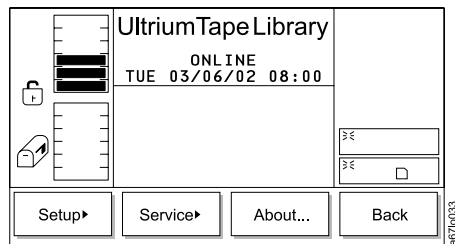

Figure 201. Main Menu (alternate screen)
1. From the Main Menu's initial screen, press the button below the **More** softkey. The Main Menu's alternate screen displays (see Figure 201).